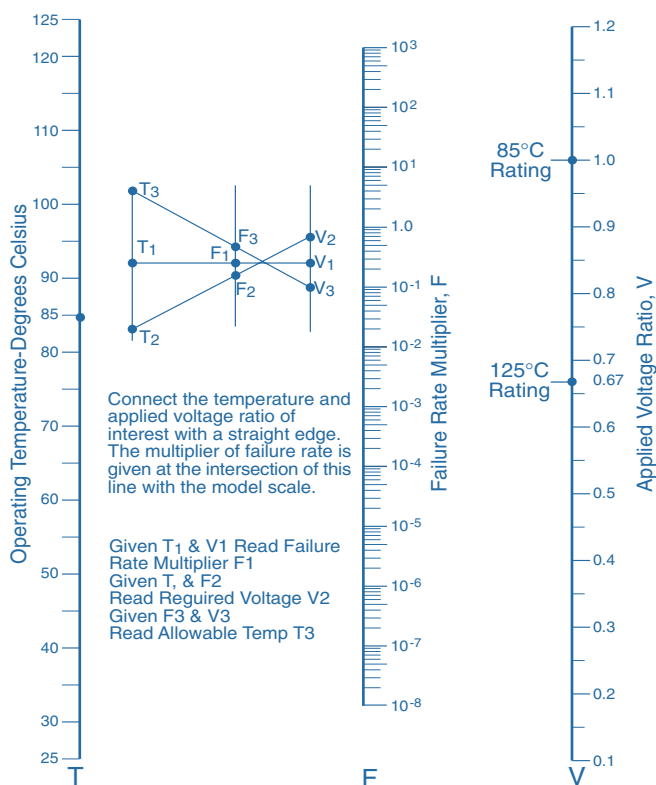

Fig 6 Reliability alignment chart
Expected reliability factors for voltages and temperatures other than the rated conditions may be found in Figure 6. Since T210 Series capacitors are supplied with a predetermined failure rate under rated conditions, reliability under use conditions may be estimated with this nomograph.
**Circuit Impedance —** Failure rates are affected by temperature and voltage as described in Figure 6 and also by the circuit impedance seen by the capacitor. Originally, application advice for solid tantalum capacitors suggested an impedance of 3 ohms or higher per applied volt. This advice was later found to be unnecessarily conservative, and the factors below are based on 0.1 ohm per volt as the unity failure rate multiplier.